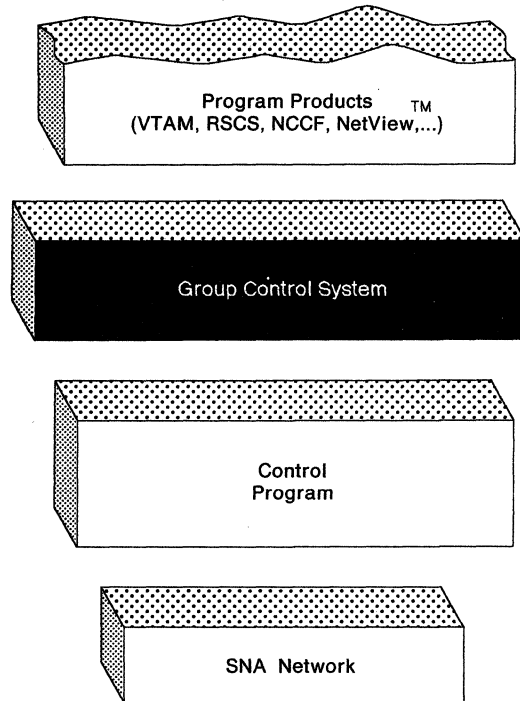

Figure 1. GCS, an Interface between Program Products and CP
- An interface between program products, like Virtual Telecommunications Access Methods (VTAM) and Remote Spooling Communications Subsystem (RSCS), and the system's control program (CP) (Figure 1).